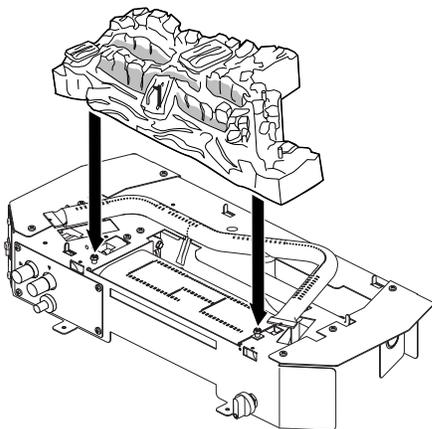

Figure 23 - Installing Log #1 [Ember Bed] (Model VGX30NT Shown)
1. Place log #1 (ember bed) onto the base. Position the log over the shoulder bolts on either side of the front burner. The log will sit on top of the front burner (see Figure 23).